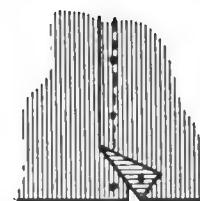

Fig. 244C. Making the lap seam.
1. Lap the shoulder, underarm, and any other seams flat, seamline on seamline, and machine-stitch or catch-stitch (Fig. 244C).